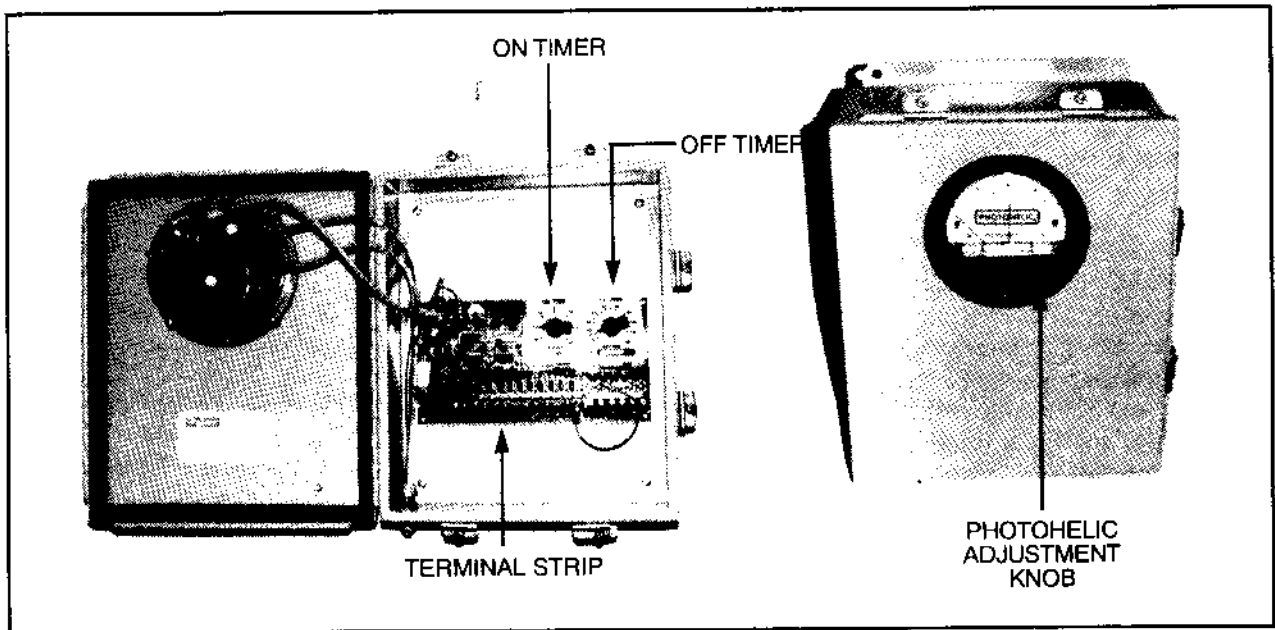

FIG. 4
2. Open the door of the control box. Set the OFF timer for 5 seconds. Set the ON timer for 0.10 seconds. Adjust the set point of the photohelic switch/gage to zero. (See Fig. 4.).